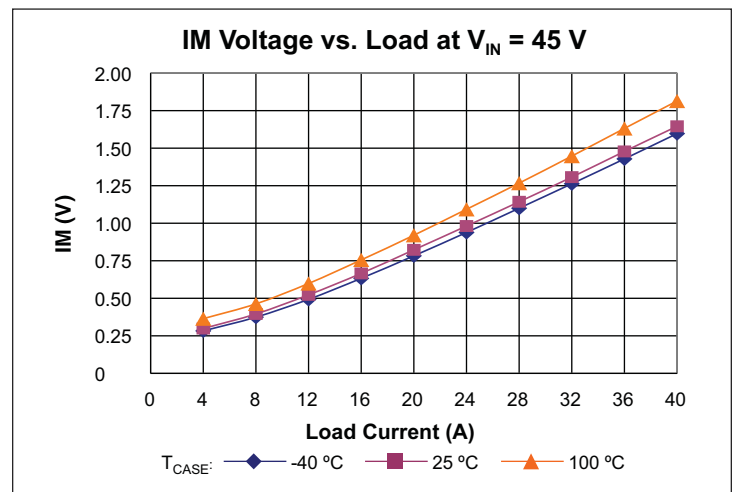

Figure 8 — IM voltage vs. load
**Current Monitor (IM)** pin provides a voltage proportional to the output current of the VTM module. The nominal voltage will vary between 0.3 V and 1.64 V over the output current range of the module (See Figures 8–10). The accuracy of the IM pin will be within 25% under all line and temperature conditions between 50% and 100% load.